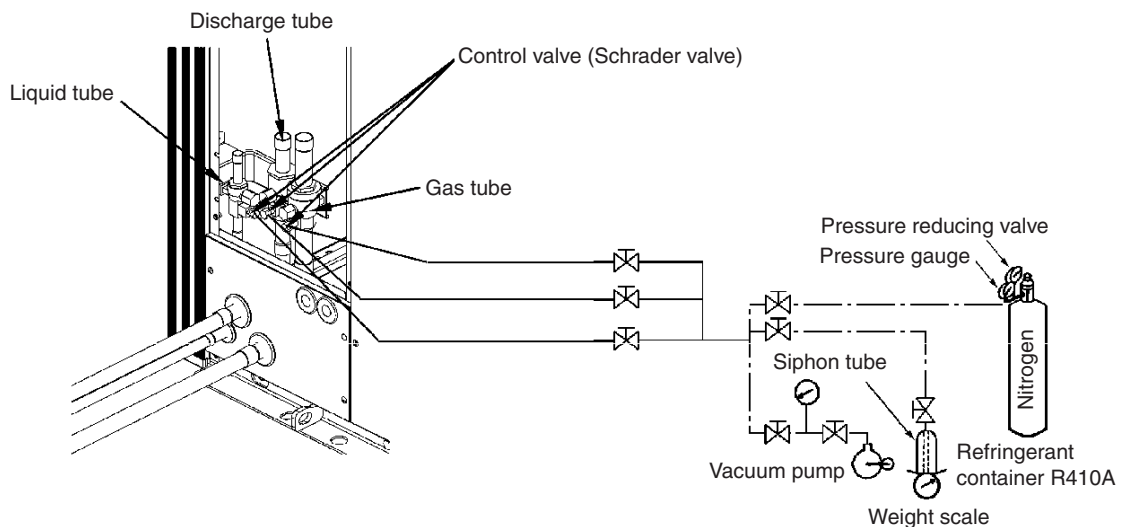

Figure 5
- (5) Tubing airtightness test and vacuum application <for 3-WAY multi>
- Connect the manifold gauge to both service ports - on the wide tube side and narrow tube size. Then connect the nitrogen tank, vacuum pump, and other items as shown in Fig. 5.